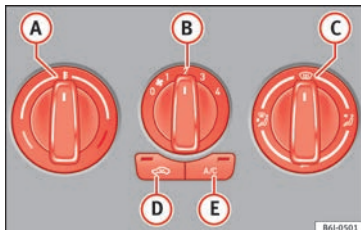

Fig. 144 Air conditioning controls on the dash panel.
- Using the rotary switches **(A)**, **(B)** and **(C)** **»» Fig. 144** you can adjust temperature, blower speed and air distribution.
- Turn off the cooling system using the **» Fig. 144**  button (the button light turns off).
If the rotary switch  **» Fig. 144** is in the thaw position, the recirculation flap will always be open (button light off).
- Press button  **» Fig. 144**, the switch's lamp will light up, indicating that air recirculation inside the vehicle has been activated.